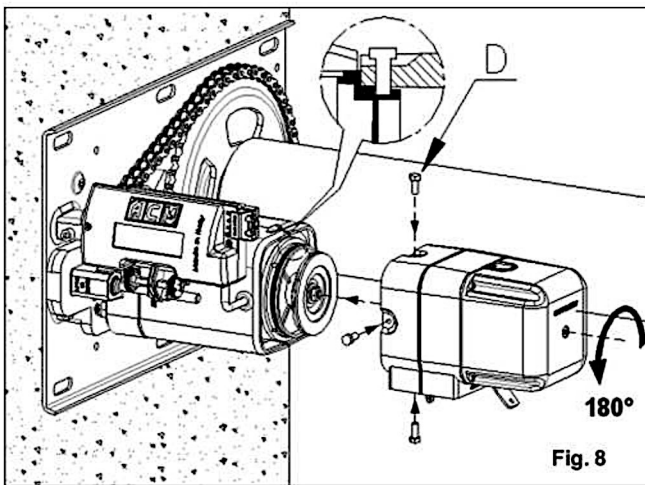

Fig. 8
The gearmotor provided is configured for installation to the right of the shutter seen from inside. However the system is arranged to be installed on both right and left as shown in Fig. 8 and 9. After fixing the winding shaft, assemble the motor on the bracket transmission by matching the three pins with the respective locations of the gear unit (see Figure 4). At this point push the stop bracket on the engine, fitting the trap hex drive shaft in the seat of the toothed pinion. Tighten the gear motor using the three M10 nuts.
For the configuration on the left of the gear motor, proceed as follows: Unscrew the 4 screws (D) shown in Figure 8 to release the electric brake assembly. Rotate the brake assembly 180 ° rotation in such a way that the chain, used for the manual operation, is facing perpendicularly downward. At this point push the brake assembly to overcome the resistance of the internal spring and proceed to tighten the 4 screws that were previously loosened. **Caution:** verify that the 4 screws fit properly into the groove of the electric motor as shown in the Figure 8 detail. This operation is essential for the proper functioning of the electric brake assembly.